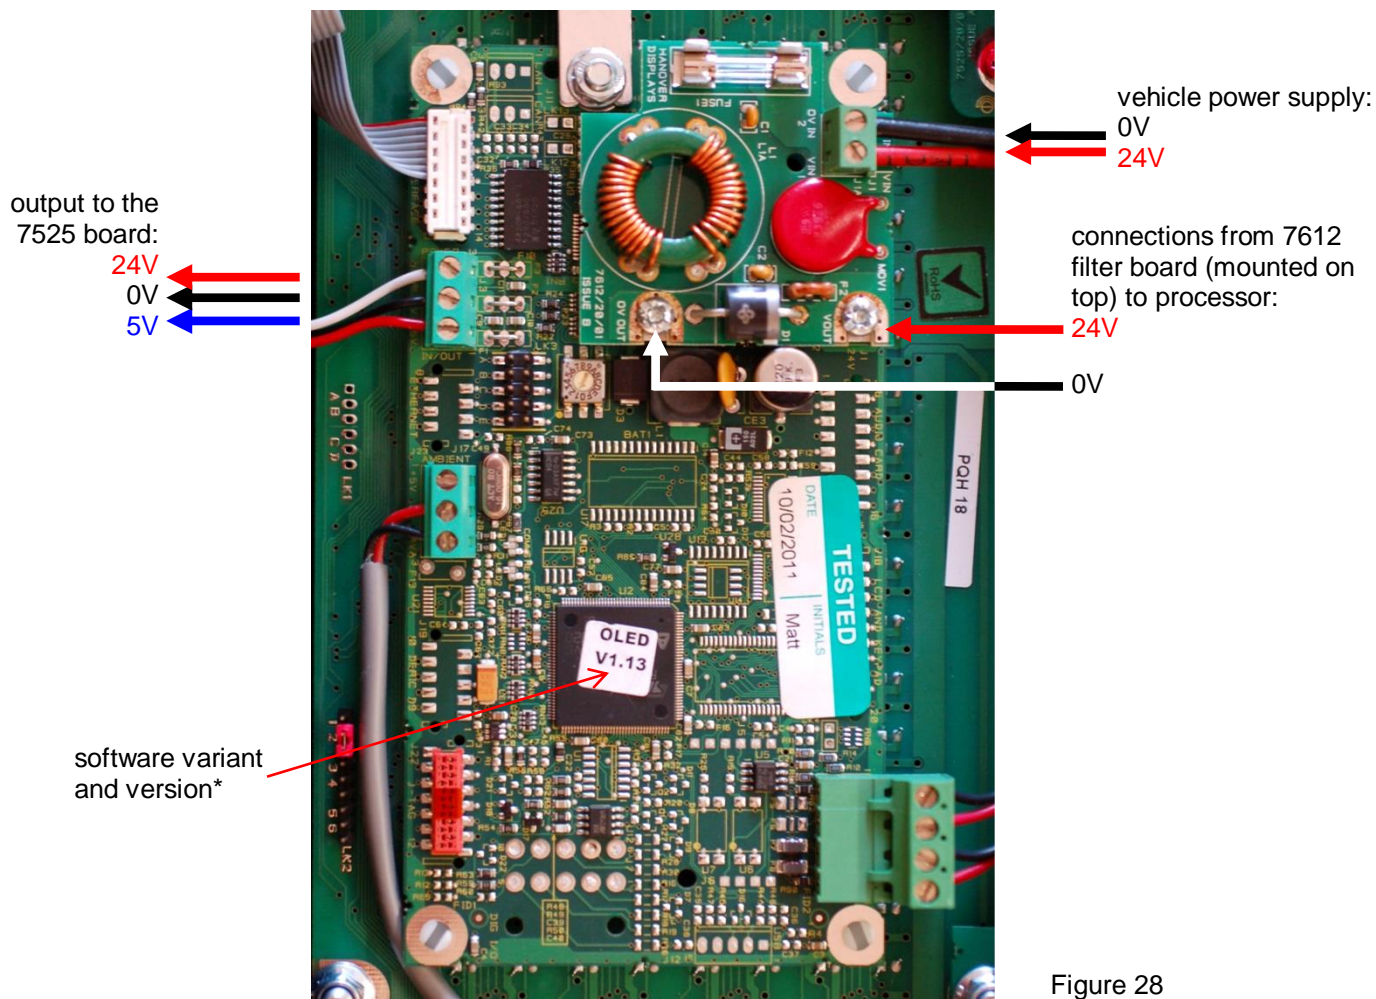

Figure 28
7. This test can be repeated to check each board individually in turn. Remove all 45mm data cables and connect one board at a time, using the long data cable (Figure 28). This can be done by connecting the cable to the left-hand connector of each board as viewed from the rear of the display.